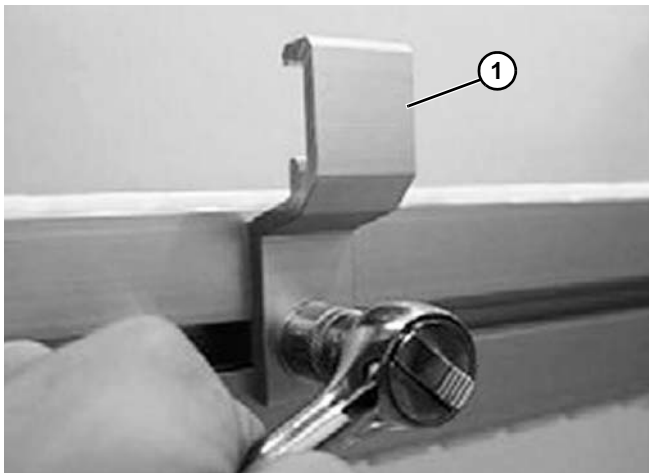

Figure 96
1. Fasten a fixed guide rail bracket support (**Figure 96, item 1**) to the conveyor beam using T-bolt.